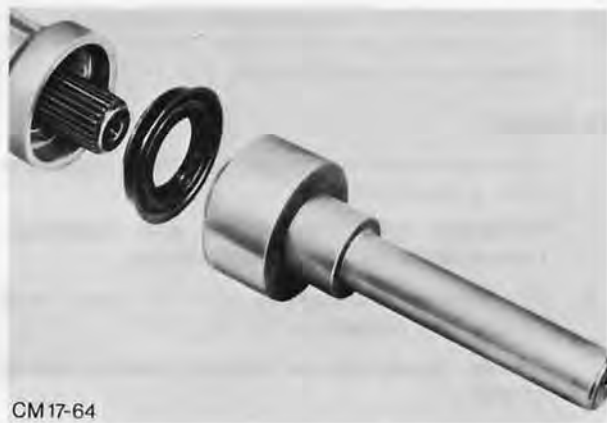

Fig. 146. Press oil seal into transmission extension housing using Tool 17-002
- 3. Press in a new oil seal using Tool 17-002, Fig. 146.